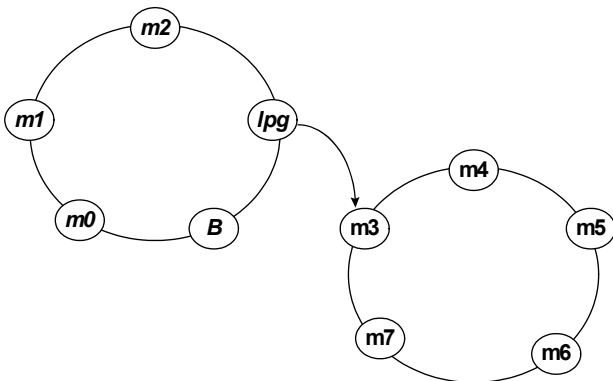

Figure 13-1. Secondary Bus Arbiter Example
The secondary Arbiter supports a programmable two-level rotating algorithm that enables the nine request/grant pairs to control up to nine external bus masters. In addition, there is a request/grant pair internal to the PCI 6350, which allows the device to request and be granted access to the secondary bus. Figure 13-1 is an example of the Internal Arbiter wherein four masters, including the PCI 6350, are in the high-priority group, and five masters are in the low-priority group. Using this example, if all requests are always asserted, the highest priority rotates among the masters in the following way (the PCI 6350 is denoted as *B*; high-priority members are provided in *italic type*, and low-priority members in **boldface type**):
**Note:** In Figure 13-1, “lpg” denotes “low-priority group.”
Using the example provided in Figure 13-1, but with the groups at fixed priority, suppose that: